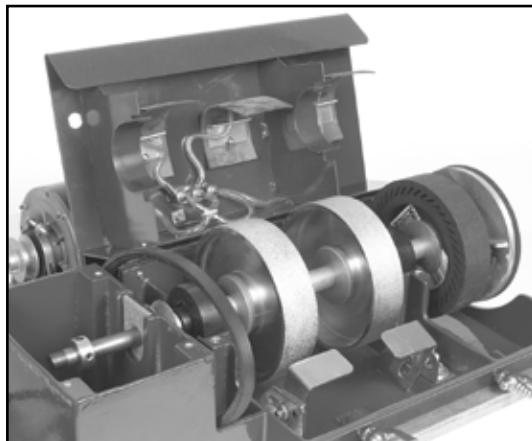

Fig 45 - Cab Combo Workshop with hood rotated back
6. Slide the motor away from the Cab Combo Workshop and rotate the hood back (fig 45) to expose the shaft assembly.